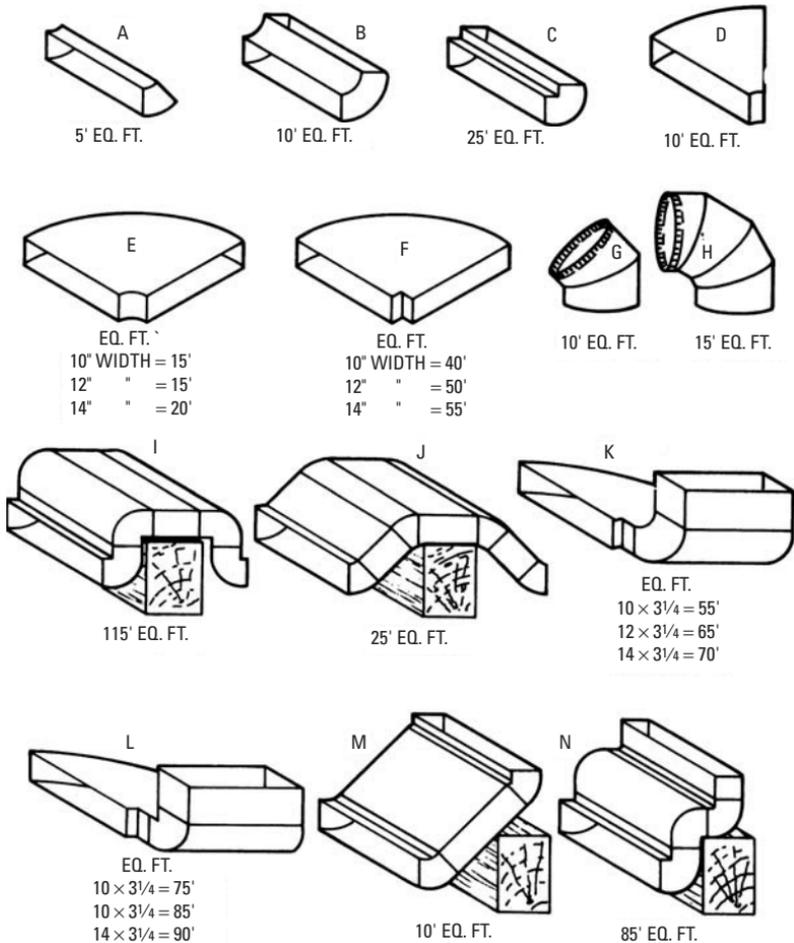

Figure 7-11 Stock angles and elbows. (Courtesy ASHRAE 1952 Guide)
- Stack angles and elbows (see Figure 7-11)